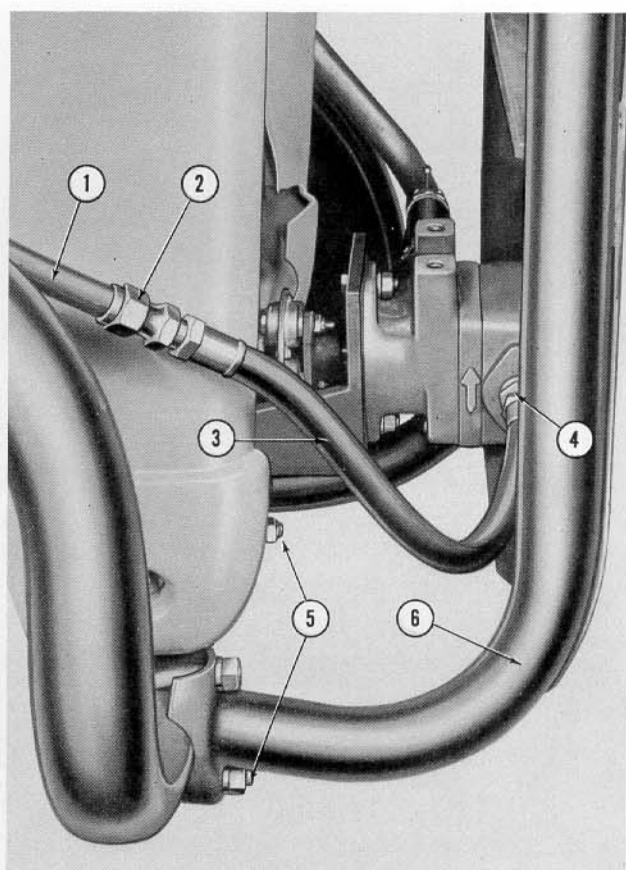

Figure 9
- Install the 1/2" x 3/8" reducer bushing (4), Figure 9, on the right side of the loader hydraulic pump.
- Turn the externally threaded end of the hose section (3), Figure 9, into the reducer (4). Attach the internally threaded coupling (2) to the high pressure pipe (1) as shown.
7. Attach the bumper assembly (6), Figure 9, to the main frame with the four U-bolts, lockwashers and nuts, as shown at (5), Figures 9 and 10.